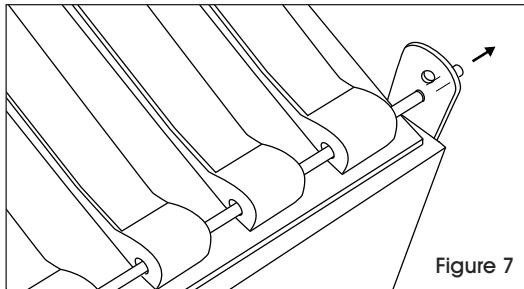

Figure 7
11. Slide hinge bar into bottom hole of right hinge bracket. (See Figure 7)